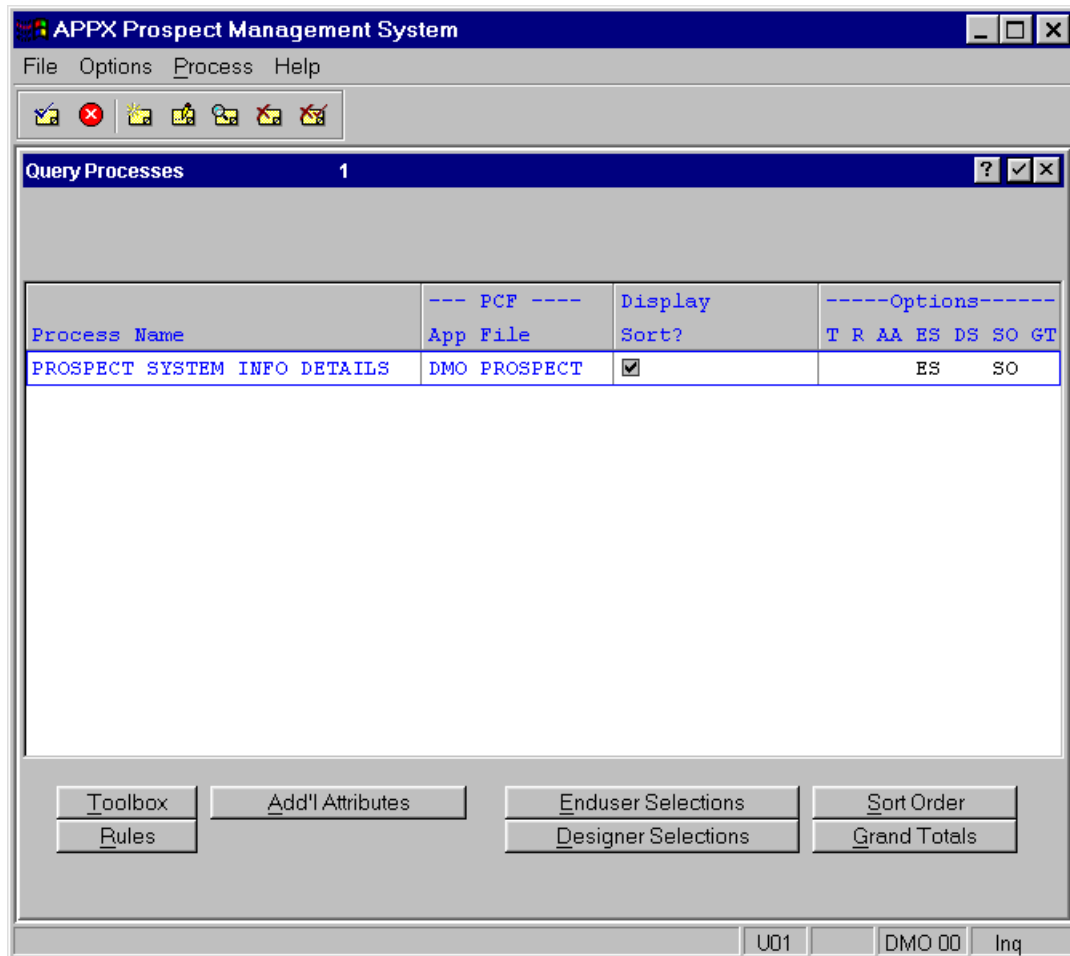

Figure E4.6 – Query Process
- The first job step runs a **QUERY** process. You decide that you would like to view the design of this Query process, and, having noted that this job step is the currently selected Automatic Child Process record, you use Option 93 to directly access **Query Processes** design. **Query Processes** design is run and the **PROSPECT SYSTEM INFO DETAILS** query process is displayed in Inquire mode as shown in *Figure E4.6* below. Remember, you can use this convenient "drill down" capability anywhere within application design to directly access child processes.
The first screen of the Query Process (*Figure E4.6*) shows that the PCF (Process Control File) is the PROSPECT file as you specified when generating the report.